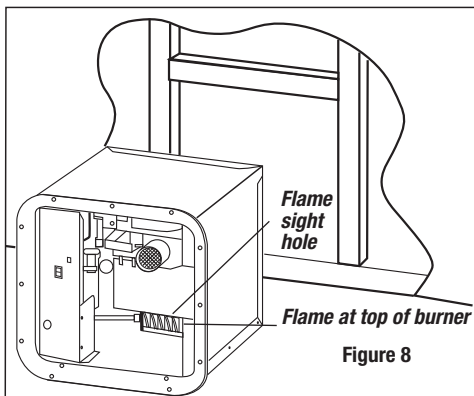

Figure 8
9. Turn on the power to the water heater and open a hot water faucet to inspect the flame of the burner. The flame should be of the normal bluish appearance that indicates proper combustion. This can be accomplished by observing the flames through the sight hole and looking at the burner under the edge of the heat exchanger (See Figure 8).